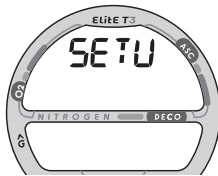

Fig. 35 - SET U (Utilities)
- Depressing the A and S buttons simultaneously for 6 seconds while the NORM or GAUG SURF MAIN screen is displayed, will access SET U identified by the graphic SETU (Fig. 35).